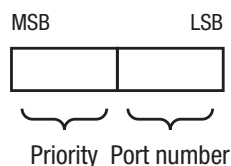

Figure 24: Port Identifier
- ▶ If multiple paths with the same root path costs lead from one bridge to the same bridge, the bridge further away from the root uses the port identifier of the other bridge as the last criterion (see figure 24). In the process, the bridge blocks the port that leads to the port with the numerically higher ID (a numerically higher ID is the logically worse one). If 2 ports have the same priority, the port with the higher port number has the numerically higher ID, which is logically the worse one.